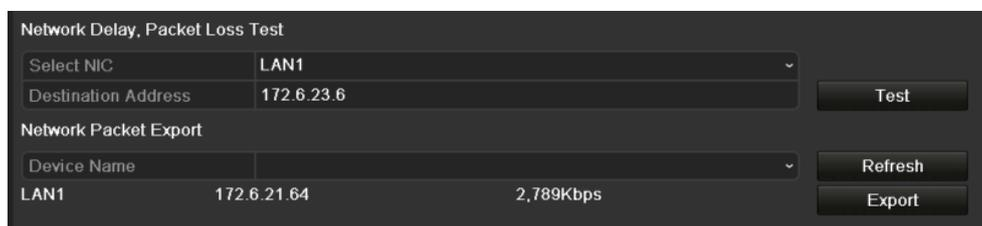

Figure 9. 31 Network Detection Interface
2. Click the **Network Detection** tab to enter the Network Detection menu, as shown in Figure 9. 31.